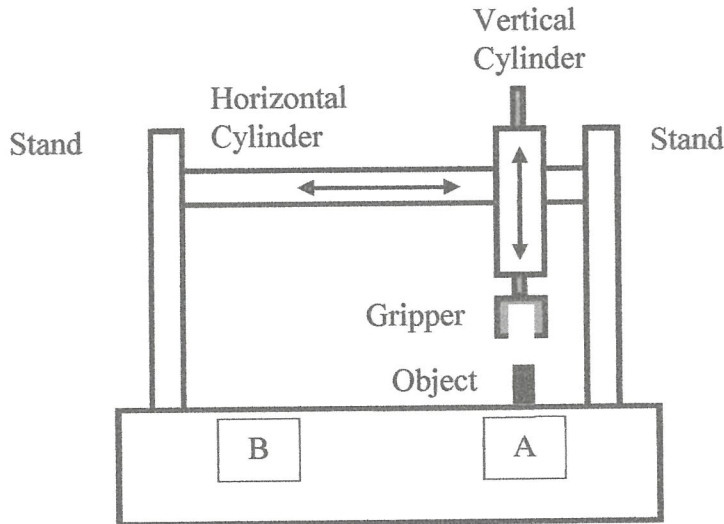

Figure Q3(b)
- (b) A pick-and-place automation system is commonly seen in the industry to lift up heavy object. The system is available in broad choices of arrangements, depending on the application and the load. **Figure Q3(b)** illustrates a customized pneumatic system for the purpose of pick-and-place. You are requested to develop the system. The sequence request is explained as follows: